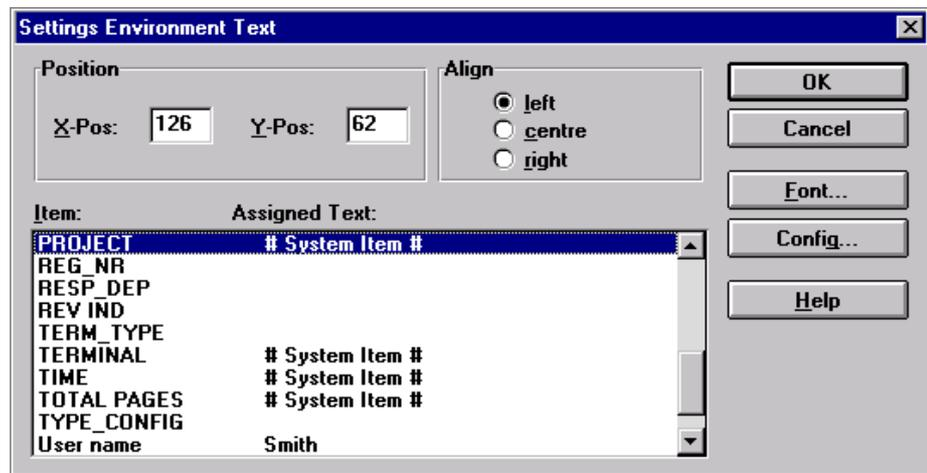

Fig. 61 The Settings Environment Text dialogue box with the new item.
- 5 Select <OK>, and the Settings Environment Text appears and the new item is displayed in the list box. Fig. 61